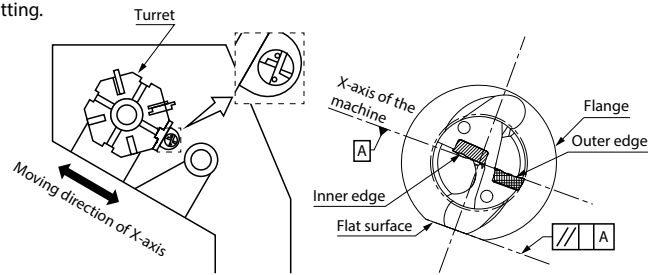
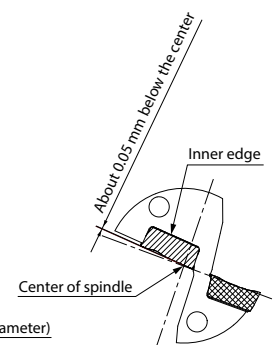

Fig. 1 Installed into the lathe
Fig. 5 Front view of the drill
1. Align the scale at the flange periphery of the sleeve to the center of the coolant plug of the drill. (Fig. 1)
2. It is recommended to set the outer insert as shown in Fig. 1 with the outer insert facing the operator. (Fig. 1)
When installing inner insert as shown in Fig. 1, It will be set around 0.05 mm below the center of spindle. (Fig. 5)